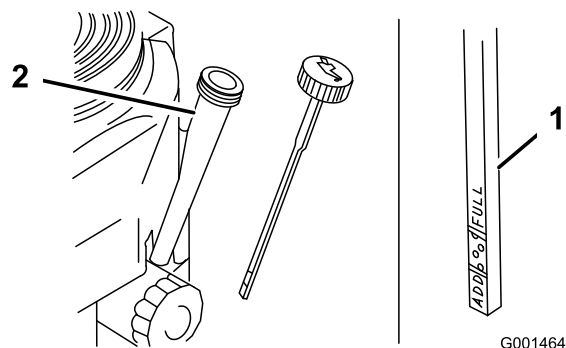

Figure 22
4. Clean around the oil dipstick (Figure 22) so that dirt cannot fall into the filler hole and damage the engine.
5. Unscrew the oil dipstick and wipe the end clean (Figure 22).
6. Slide the oil dipstick fully into the filler tube, but do not thread onto tube (Figure 22).
9. Slowly pour approximately 80% of the specified oil into the filler tube (Figure 22).